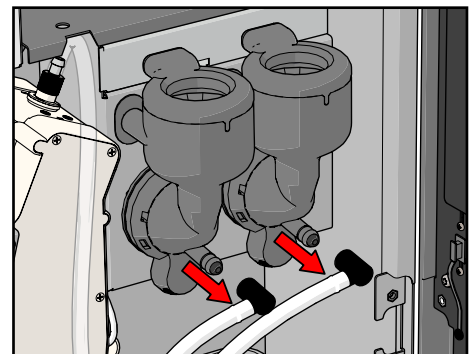

Figure 53.
5. Detach the spout-tubes from the mixers (see Figure 53).